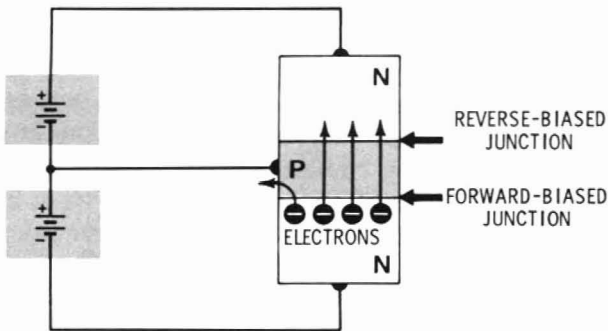

Fig. 2-17. Both junctions working together—NPN.
**Action of Two Junctions Together**—We are now ready to explain the action of the two junctions working together. The explanation will be easier to follow by referring to Fig. 2-17. Recall that the forward-biased junction supplied electrons from the N region to the P region. This was due to the larger percentage of doping in the N material. The P region that these electrons enter is the same P region